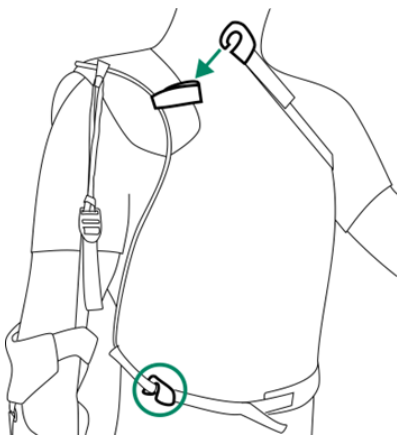

Figure 3
5. Wrap the torso straps around the body (upper strap just below the armpit, lower strap just above the hips). Secure the plastic hooks to the loops at the front of the bracket (Fig. 3).